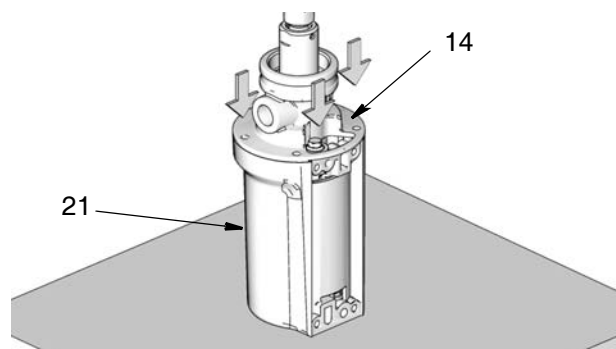

Fig. 15
5. Install the air cylinder (21) over the bottom cover (14). Place the top of the air cylinder down on a clean hard surface. Use the palms of your hands to press the bottom cover firmly into the air cylinder (Fig. 15).